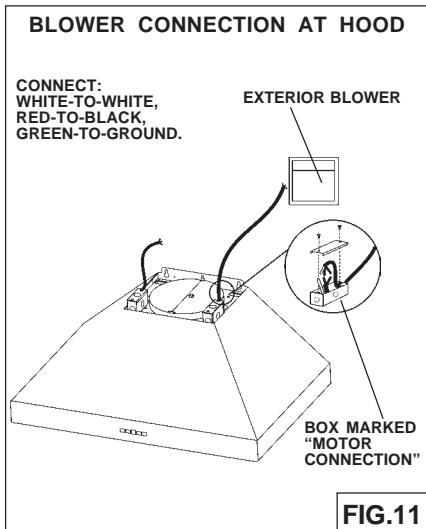

FIG.11
1. Run 2-wire plus ground power cable from the exterior blower to the hood's wiring box marked "motor connection" (Fig.11).